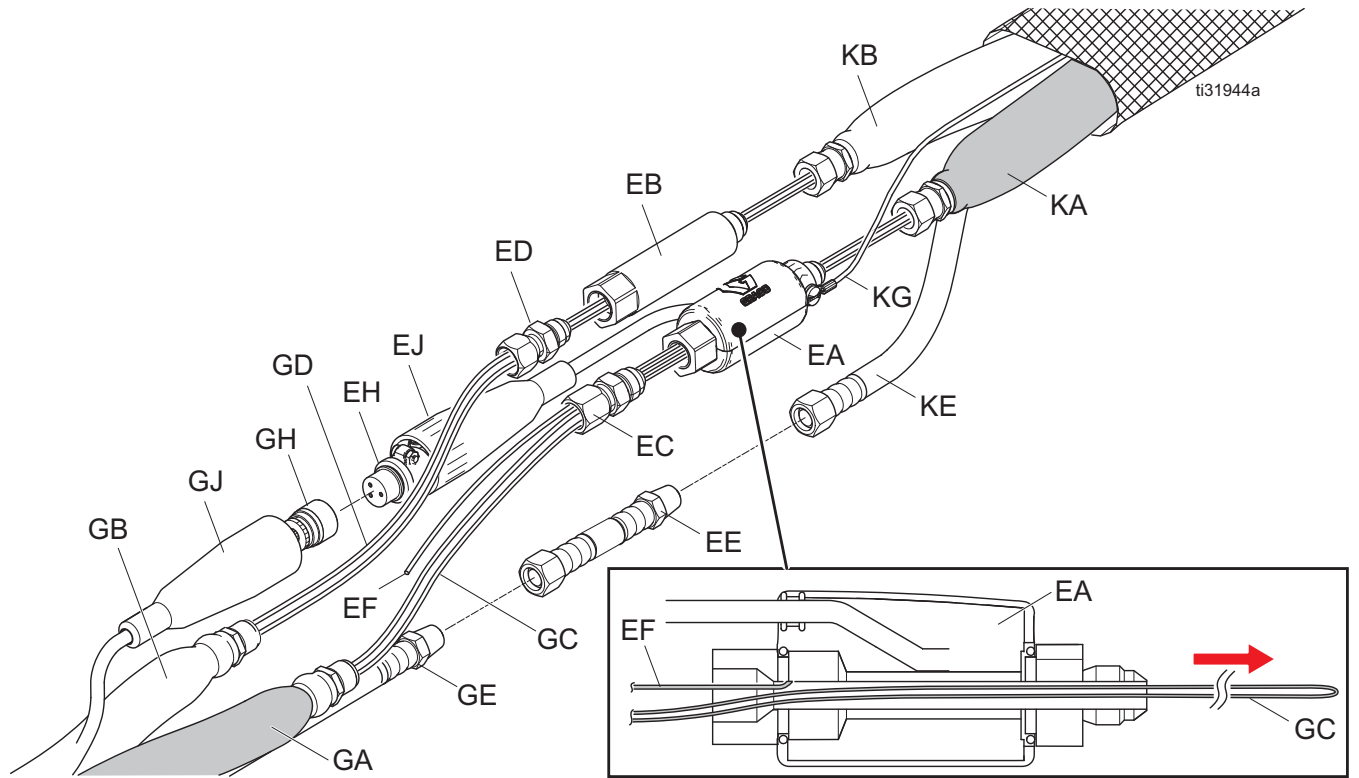
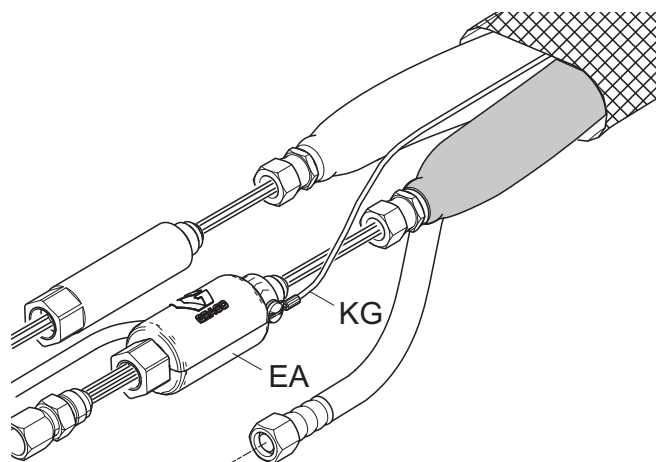

FIG. 6: Connect Unheated Whip Hose to FTS
FIG. 7: Connect Ground Wire to Ground Screw
1. Assemble JIC swivel fitting (EC) in female end of temperature sensor (EA). Straighten probe. Torque connection to 14 ft-lbs (19 N•m). Do not over-torque. Assemble JIC swivel fitting (ED) into female end of B hose coupler (EB). Torque to a maximum of 20 ft-lbs (27 N•m). Do not over-torque.
3. Feed A-side hose heating elements (GC) through the FTS assembly (EA, EC).
- a. Ensure heating element passes below the temperature sensor probe as shown in FIG. 6.
- b. Slide the FTS down the heating wire to within 24 in. of the hose fitting (GA).
4. Carefully insert FTS probe into the A hose (GA). While holding the A-side heating elements taut:
- a. Hand-tighten the JIC swivel fitting (EL) while ensuring that approximately 1 in. of the heating element can still be pushed in and pulled out of the FTS and hose connection.
NOTE: Refer to FIG. 6, page 23, and FIG. 7, page 24.
1. Feed A-side hose heating elements (GC) into the A side whip (KA). Keep whip hose as straight as possible to aid in insertion.
2. Feed B-side hose heating elements (GD) into the B side whip (KB).
3. Connect ground wire (KG) of whip hose to the ground screw on the FTS (EA). See FIG. 7.